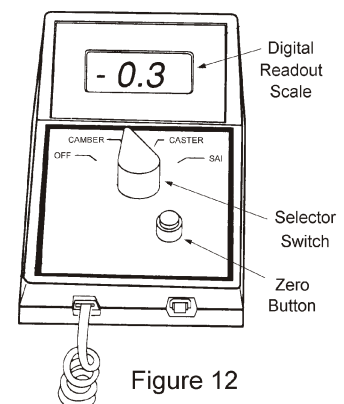

Figure 12
- 6) Set the selector to CAMBER (See Fig. 12).
- 7) Read Camber on the Digital Readout Scale (A negative 0.3 is indicated in Fig. 12). The numeric read out will be preceded by a + or - to indicate positive or negative Camber.